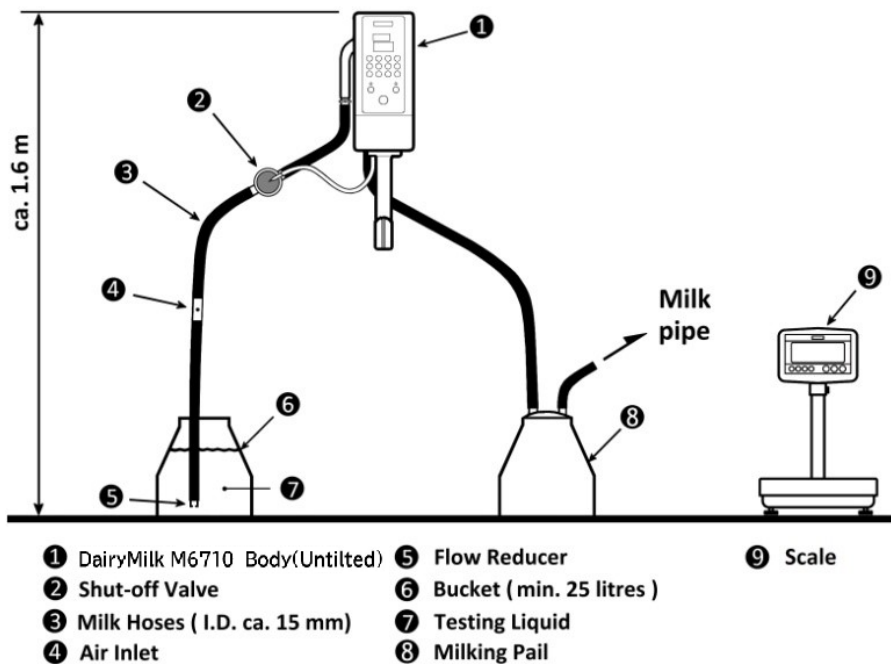
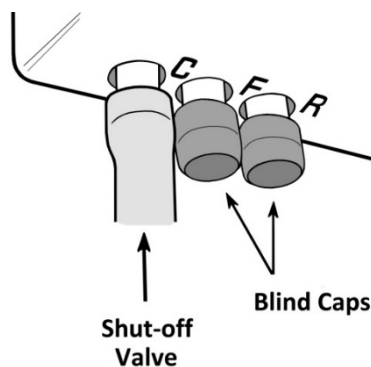

Fig. 1. Water test.
Fig. 2. Positions of blind caps (Ports "F" and "R" of triple tube connection on the bottom of DairyMilk M6710 body).
#### **Required equipment (ref. Fig. 1 & Fig. 2)**
- Milk hoses with a 15-16 mm internal diameter (refer the Fig.1).
4. Prepare for the test as figure 1.